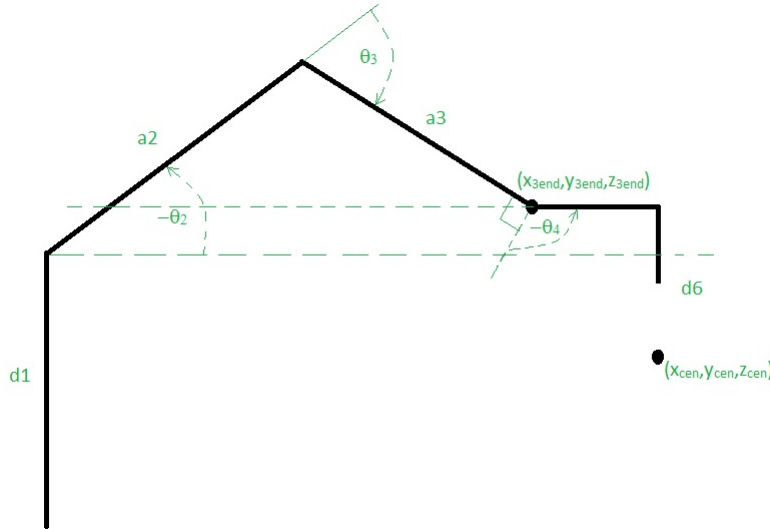

Figure 4.2: Side View Stick Pictorial of UR3 without Suction Gripper.
Figure 4.2, that is a projection of the robot onto a plane perpendicular to the x,y world frame and rotated by θ_1 about the base frame. Call this the side view. Looking at this side view you will see that z_{3end} is z_{cen} offset by a constant.
5. θ_2 , θ_3 and θ_4 , by using the same side view drawing just drawn above to find z_{3end} , Figure 4.2. Now that x_{3end} , y_{3end} , z_{3end} have been found use sine, cosine and the cosine rule to solve for partial angles that make up θ_2 , θ_3 and θ_4 . Note that in the side view the length link 1 is $d1$, link2 is $a2$ and link3 is $a3$. Hint: In this side view, a parallel to the base construction line through joint 2 and a parallel to the base construction line through joint 4 are helpful in finding the needed partial angles.